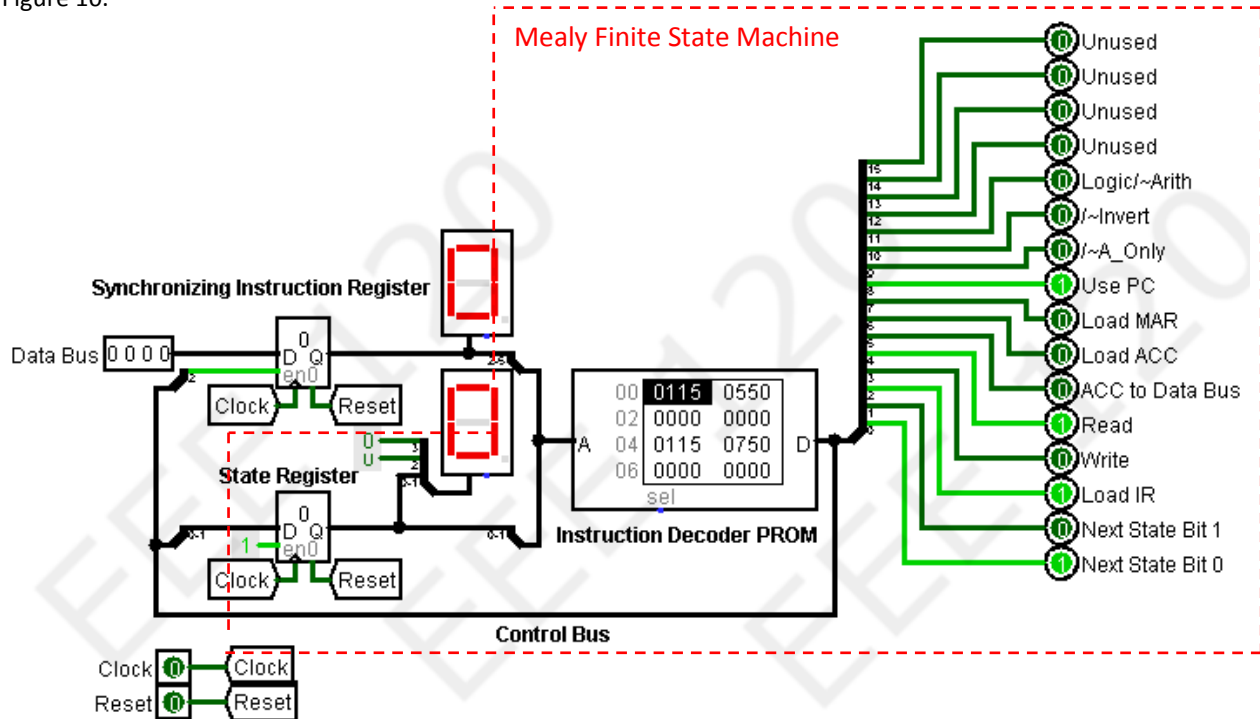
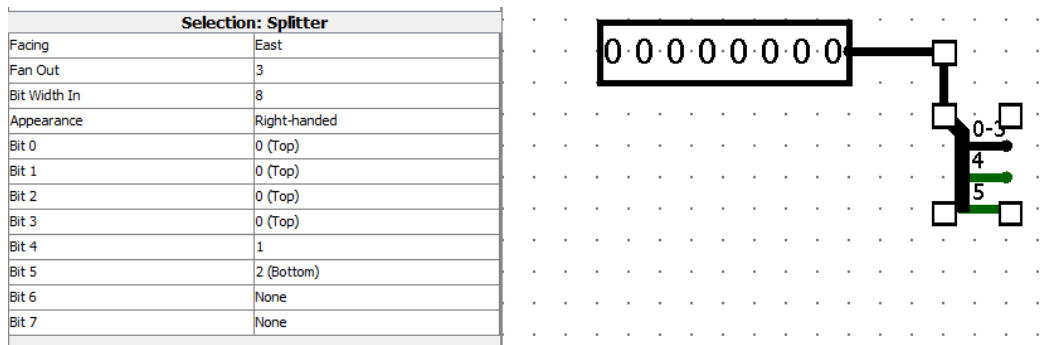

Figure 10. Microprocessor controller circuit
Figure 11. Splitter demonstration
The controller we will design and build is a PROM-based synchronized Mealy finite state machine as shown in Figure 10.
The controller circuit is divided into two pieces. One piece, in the red dashed lines, is the classical PROM-based Mealy finite-state machine (FSM). The external input to the Mealy machine controller consists of a 4-bit opcode, which is supplied by the data bus to the synchronizing Instruction Register (IR). The outputs from our Mealy machine controller will perform two conceptually distinct chores. One group of outputs (from bit 2 to bit 11) will provide control inputs to the various blocks of our microprocessor. You have manipulated manually most of these signals listed in Table 1 to control the brainless microprocessor. A second group of outputs (from bit 0 to bit 1) from our Mealy machine controller are needed to drive the state flip-flop array to achieve the appropriate next state—given knowledge about the present state and external input. As discussed in the lecture, there are four states in the Mealy FSM. It means that we need a two-flip-flop state array to hold the present-state information. Assuming that we use D flip-flops to store the present state, our controller needs two outputs to drive the state flip-flop array. Note that Figure 10 shows that we are implementing the controller functions using a PROM rather than combinational logic. (Notice also that the PROM in this figure has 4 unused outputs (from bits 12 to bits 15).
The other piece of Figure 10, the synchronizing IR, serves two functions. One function is to keep the opcode constant for the duration of clock cycles needed by the opcode to fulfill its task. The second function is to ensure that the input to the controller changes in synchronism with the processor's clock. Without the synchronizing IR, the controller would perform erratically. For example, if the controller is executing an opcode, the operand that is
Build the circuit (except the PROM) in Figure 10. Note the state register is a **2-bit** register. You **DON'T** have to build the 16-bit splitter on the right. Figure 11 below will help you build the more 'sophisticated' bus splitters in the circuit.
After you edit all the above properties, add the ROM symbol and complete the controller circuit in Figure 10.